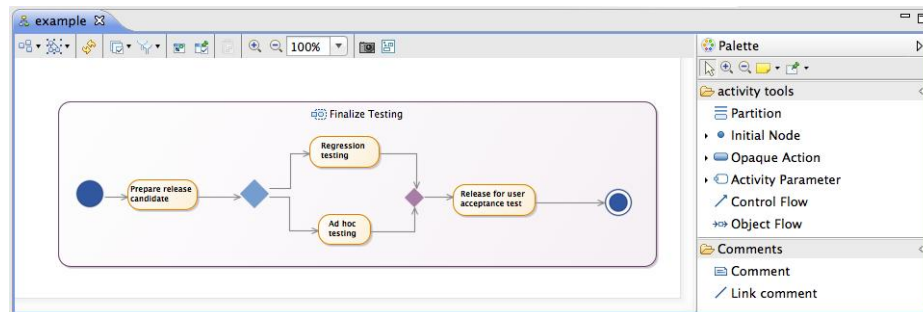

Figure 8 Example Process model in editor
| Figure 8 Example Process model in editor .....                                  | 9  |
4. This shall open up the UML activity diagram in the editor, as shown in Figure 8 Example Process model in editor